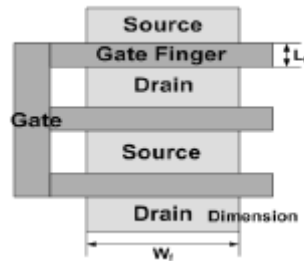
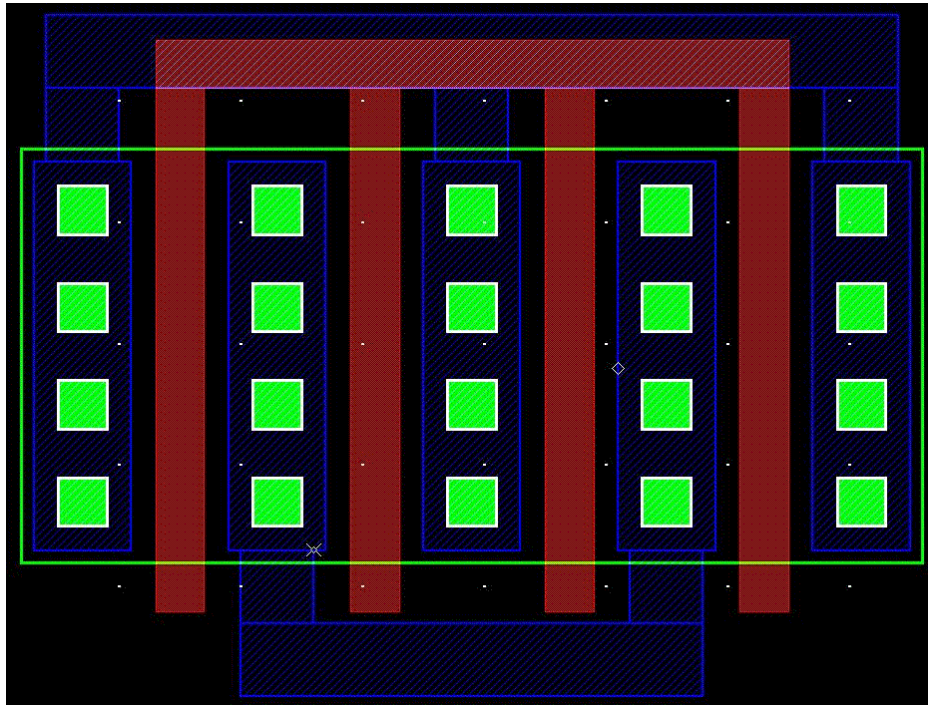
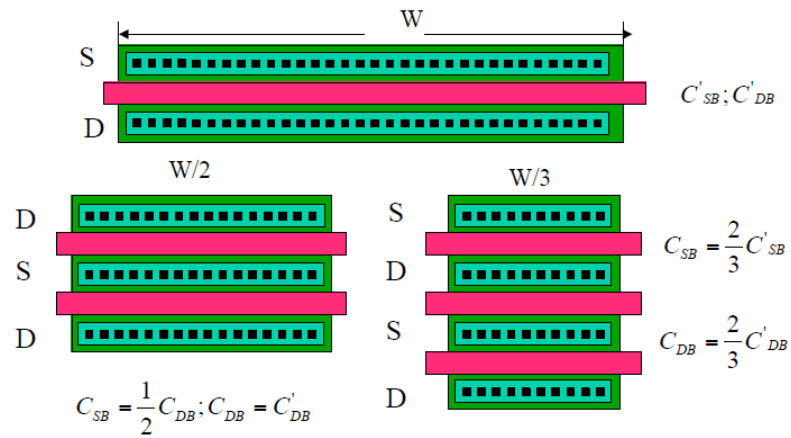

Figure 3 Multi-finger MOS Transistor
Figure 4 Wired Multi-finger MOS Transistor (layers colors to not match the Generic 45 nm PDK)
Figure 5 Multi-finger MOS Transistor Examples
6. If a transistor will not fit in the space allotted due to its channel width, use the multi-finger technique shown in Figure 3, Figure 4, and Figure 5 to draw the device. Note that if you use multi-finger transistors, for proper simulation and LVS, you need to define the number of fingers drawn as a parameter setting of the appropriate transistors in the schematic view.